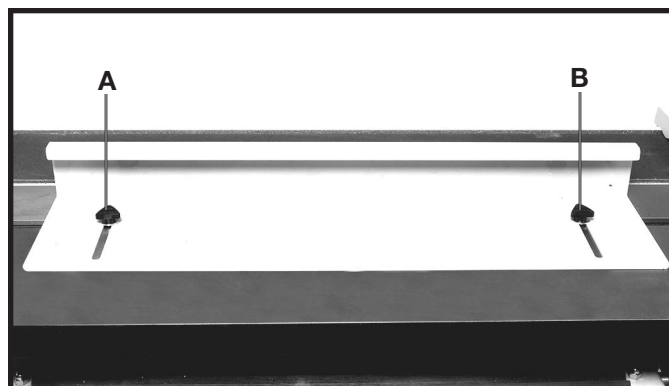

Fig. 45
1. Loosen fence knobs (A) and (B) Fig. 45.
2. Move fence to desired position and tighten knobs (A) and (B) Fig. 45.